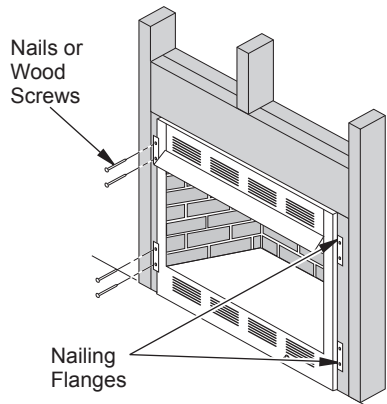

Figure 19 - Attaching Firebox to Wall Studs
7. Attach firebox to wall studs using nails or wood screws through holes in nailing flange (see Figure 19).